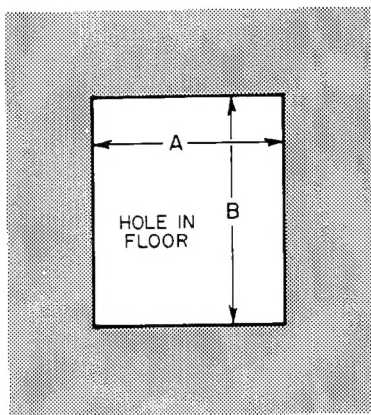

Figure 4—Floor Opening for Concrete Slab
- Construct hole in floor per dimensions in Figure 4 and Table IV.